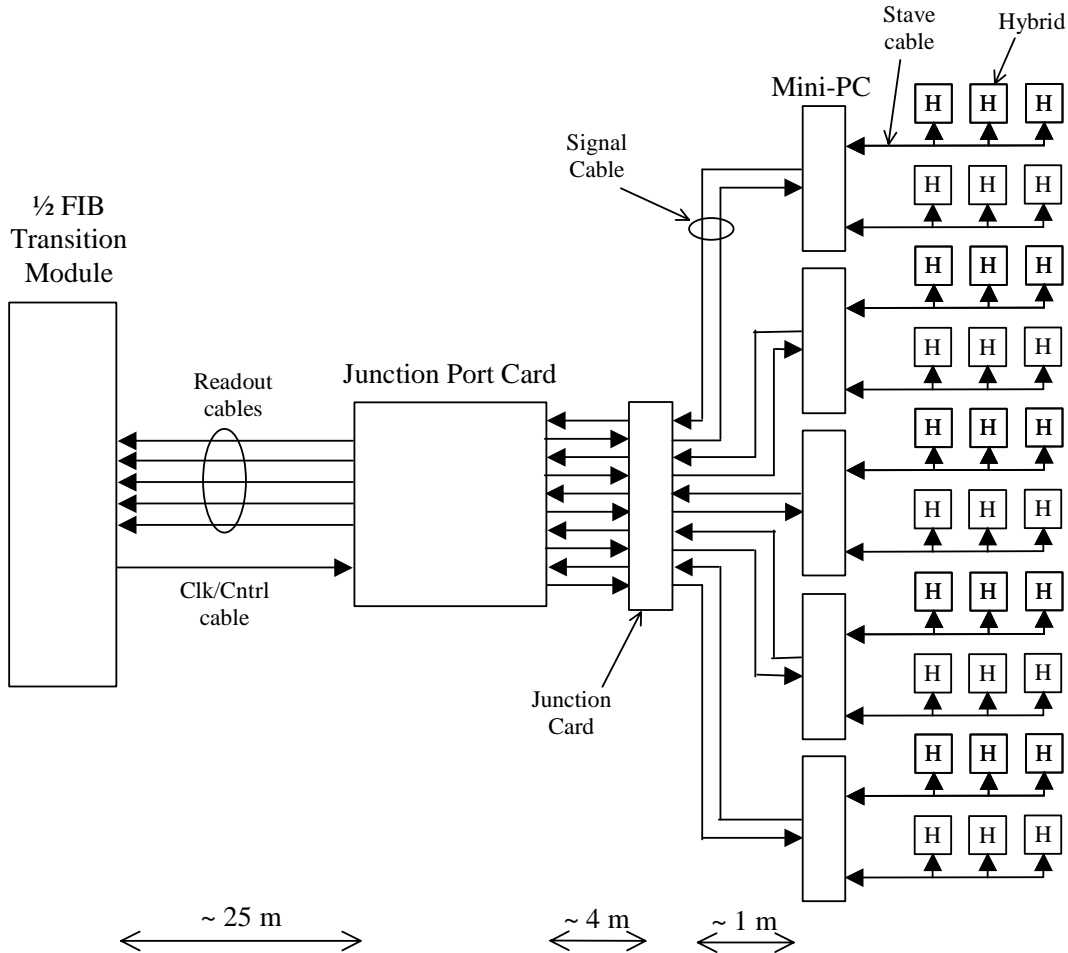

Figure 1. MPC Interconnected With Other Devices
This document describes the cables used to connect the Junction Port Card (JPC), the Junction Card (JC) and the Mini-Port Card (see Figure 1). The JC is a complete passive card used for detector assembly purposes. The distances between the JPC and JC is ~4m and between the JC and MPC ~1m. For this interconnection each MPC requires three types of cables: signal cables, power cables and high voltage cables. Figure 1 shows just the signal cable, it does not show the power and high voltage supplies and associated cables. One JPC connects to five MPC. Therefore, the JPC interconnects to five sets of these three types of cables.